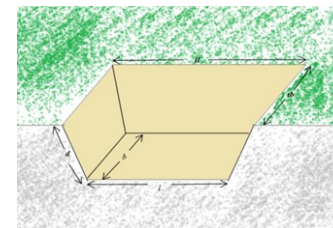

Figure 5
4. Make the cut surfaces including the floor smooth by using mud and cow dung paste or mud paste in order to avoid damages to the plastic sheet while laying out and when filled with water. The pit ready to lay out plastic sheets should have the dimensions as shown in the figures 5 & 6.